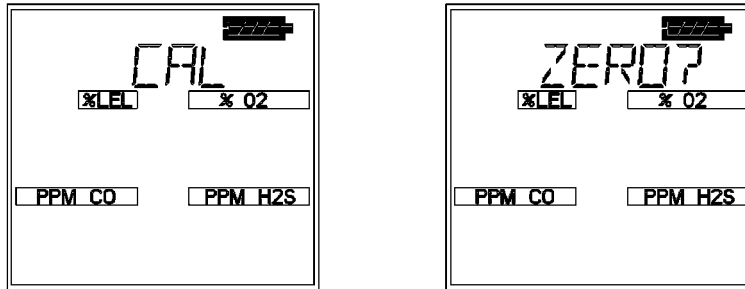

Figure 4-2. Zero Flag
3. Push and hold the RESET button until **CAL ZERO?** flashes on the display (FIGURE 4-2).